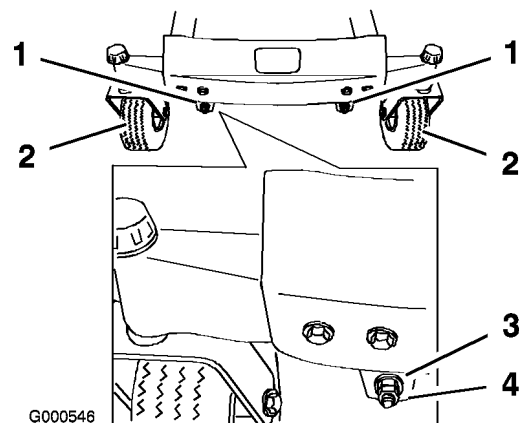
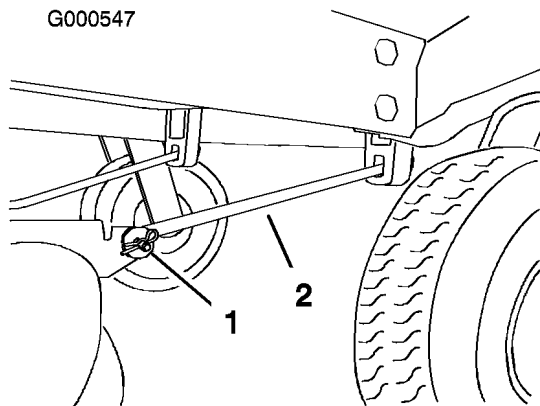

Figure 46
Figure 47
11. To adjust the front-to-rear blade slope, remove the locknuts and then rotate the adjustment nuts in the front of the mower (Figure 46).
13. After adjusting both adjustment nuts evenly, check the front-to-rear slope again. Continue adjusting the nuts until the front blade tip is 1/16-5/16 inch (1.6-7.9 mm) lower than the rear blade tip (Figure 46).
Note: After adjusting the adjustment nuts, make sure there is no slack in either support rod (Figure 47). Tighten either one to remove the slack (Figure 46).
4. Remove the hairpin cotter and clevis pin from the front support rod on each side of the mower (Figure 47).
7. Attach the front support rods to the machine with the clevis pins and hairpin cotters (Figure 47).